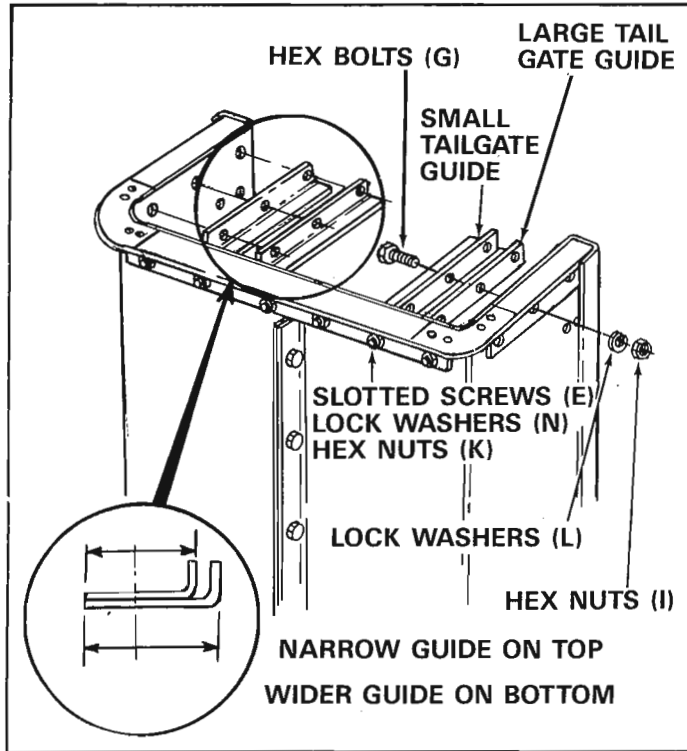

FIGURE 5
8. Position the tailgate reinforcement bracket (V) over end of cart. See figure 5.
9. Start slotted screws (E) through bottom of cart (heads of screws to the inside of cart) and reinforcement bracket. Secure finger tight with hex nuts (K) and lock washers (N). See figure 5.
10. Position the tailgate guides (Q) so that the holes line up with reinforcement bracket and cart body. Refer to tailgate guide detail in figure 5.
11. Secure with six hex bolts (G) lock washers (L) and hex nuts (I). See figure 5. Tighten all bolts and nuts.